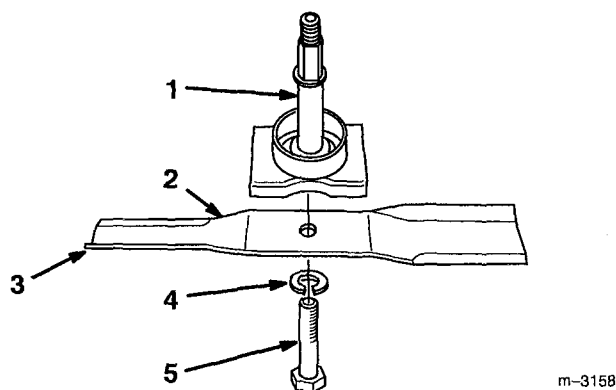
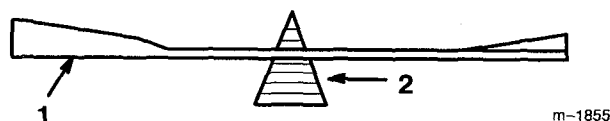

Figure 10
Figure 12
Hold the blade end using a rag or thickly-padded glove. Remove the blade bolt, lock washer and blade from the spindle shaft (Fig. 10).
2. Check the balance of the blade by putting it on a blade balancer (Fig. 12). If the blade stays in a horizontal position, the blade is balanced and can be used. If the blade is not balanced, file some metal off the end of the sail area only (Fig. 10). Repeat this procedure until the blade is balanced.
1. Install the blade onto the spindle shaft (Fig. 10).
2. Install the lock washer and blade bolt (Fig. 10). Torque the blade bolt to 85–110 ft-lb (115–140 N•m).